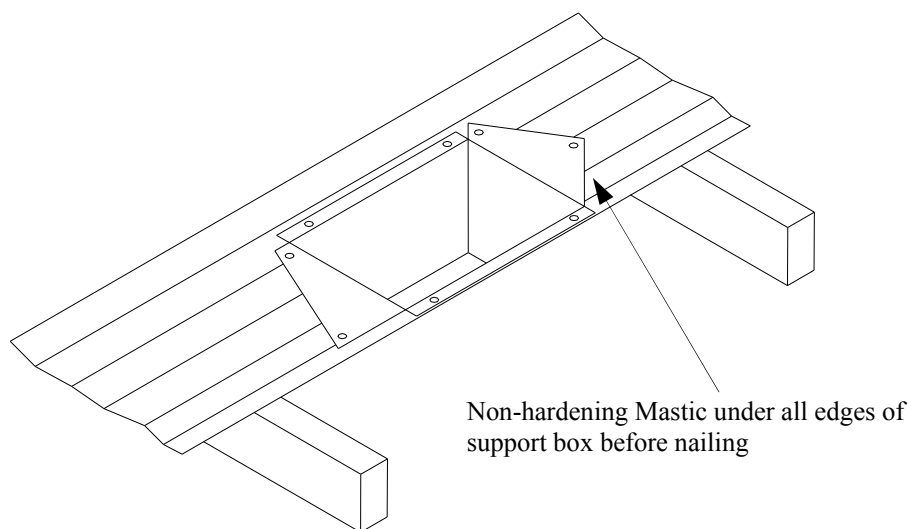

Figure 29– Installed Cathedral Ceiling Support Box
4. Using tin snips, cut the support box from the top corners down to the roofline and fold the resulting flaps over the roof sheathing (see Figure 29). Apply a bead of non-hardening mastic around the top edges of the support box to make a seal between the box and the roof. Nail in place with roofing nails. Remove any combustible material that might be inside the support box.